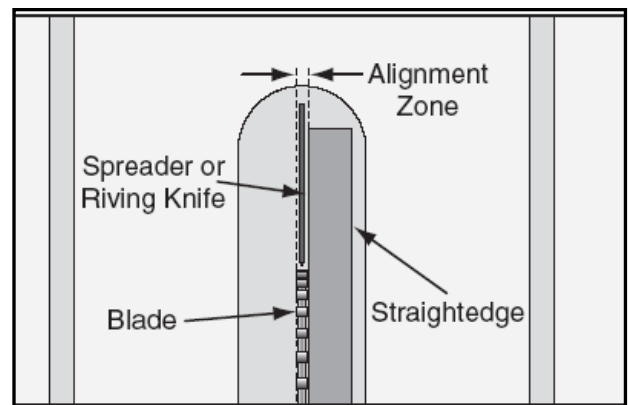

Fig. 4
7. When properly aligned the spreader/riving knife will be in the "alignment zone," shown in Fig. 4, and will be parallel with the blade.